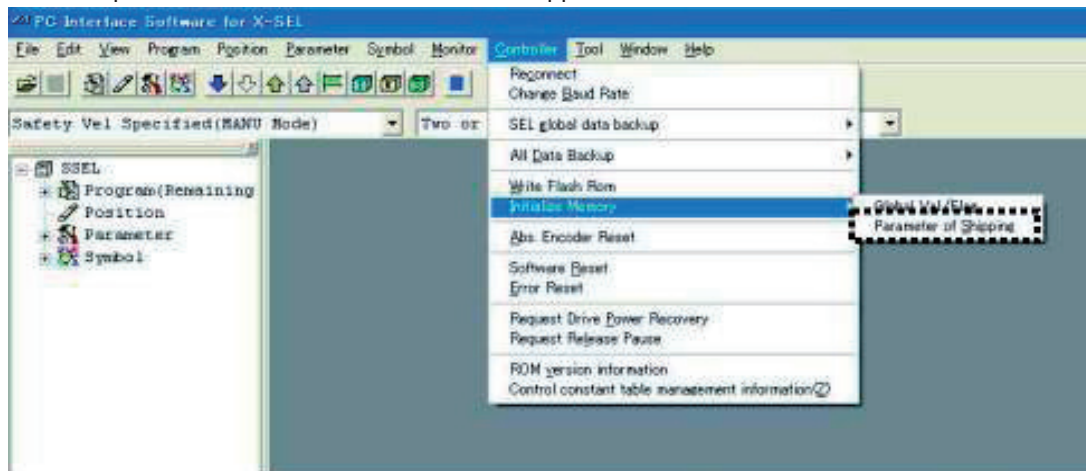

Fig. 8.21 Menu Bar (Parameter Initialization [Shipment Values]: Example of SSEL)
- (2) Enter a password (5119) in the displayed Input Password screen. The Parameter of Shipping menu will be displayed in the Initialize Memory menu (Fig. 8.21).